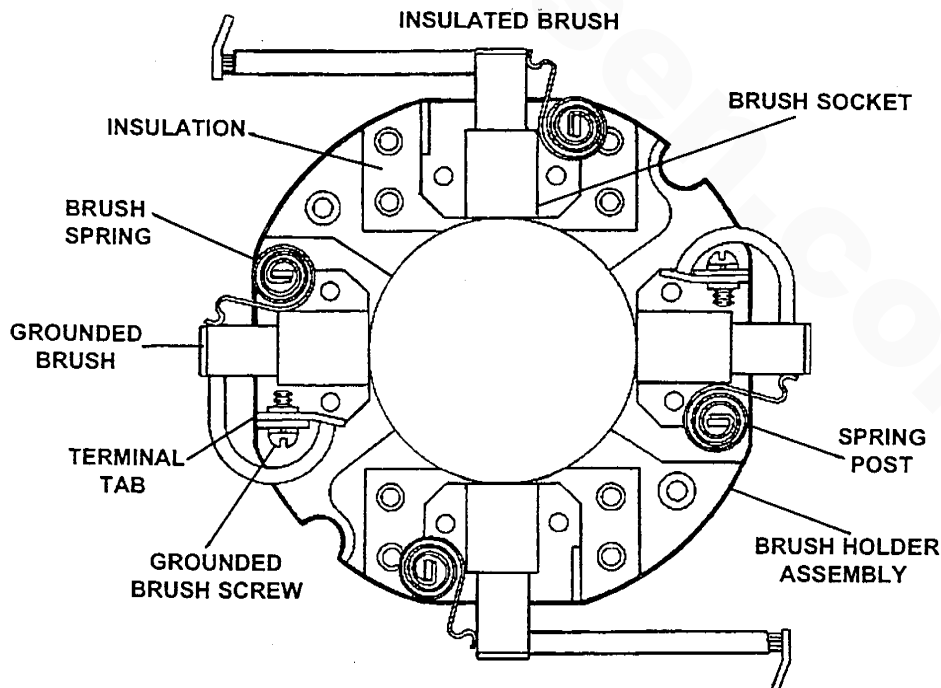

FIGURE 14. SPRINGS AND BRUSHES ON BRUSH HOLDER
- a. See Figure 14 for the proper installed position of all brushes. Make sure the insulated brushes (5) go into the brush sockets of the brush holder assembly (3) that are mounted on the insulation.